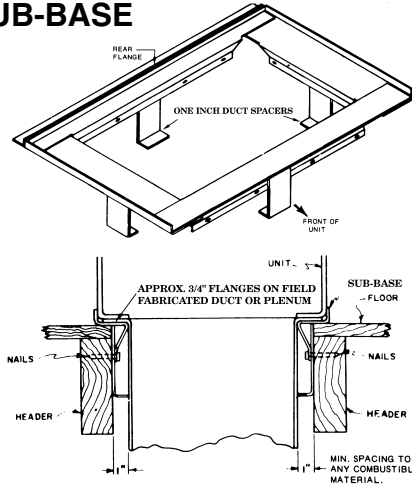

Figure 1
6. When the air handler with supplementary heater is to be installed in the downflow position on combustible flooring an accessory sub-base (TAYBASE100 for 2/4TEE3F39-64) must be used. See Figure 1.
- i. When supplementary heaters are used, accessory subbase (TAYBASE102 for 2/4TEE3F62) must be used. See Figure 1.